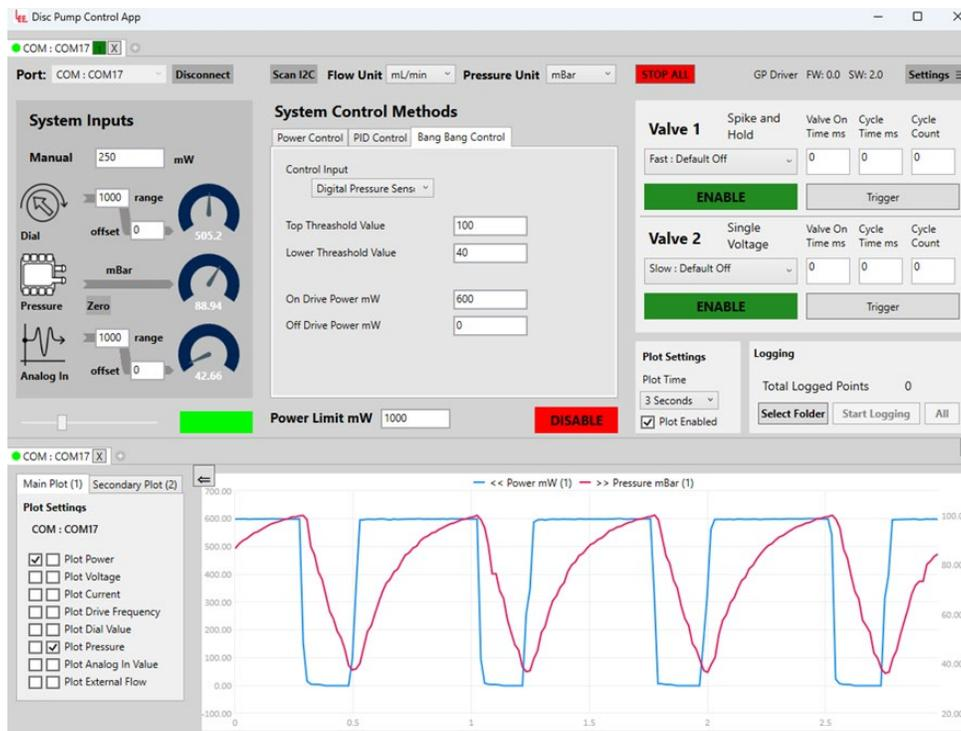

Figure 42. Disc Pump Control App GUI
- The application should now be connected and display all the current settings on the GUI as shown in Figure 42.